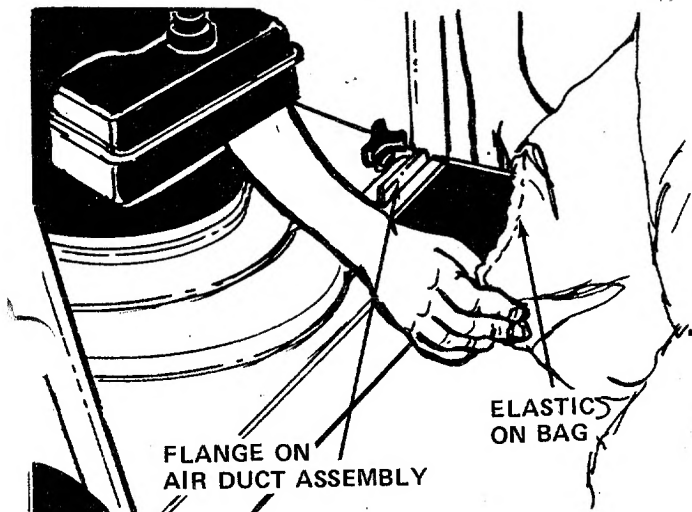

FIGURE 11
13. Slip the elastic opening of the bag over the air duct assembly, making certain the elastic opening is secured behind the flanges on all four sides of the air duct. See figure 11.